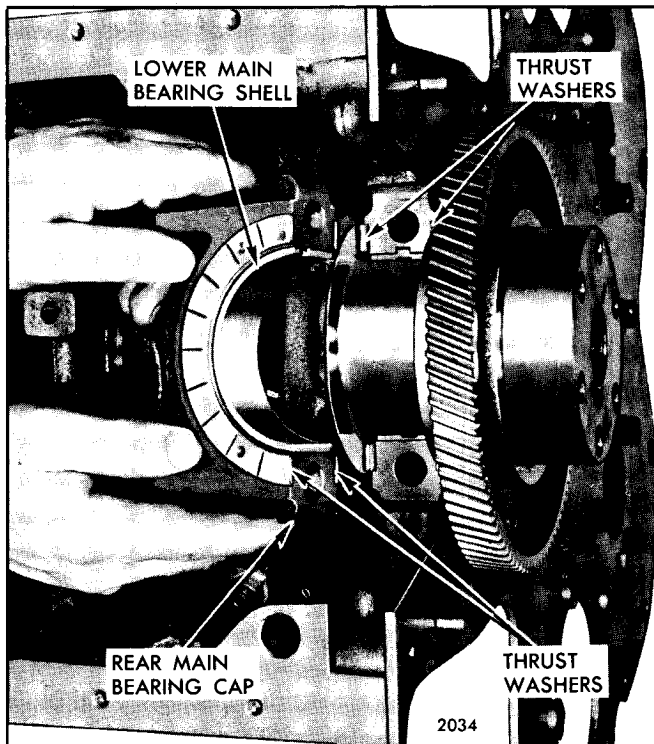

Fig. 9 - Crankshaft Thrust Washers in Place
Inspect the crankshaft thrust washers (Fig. 9). If the washers are scored or worn excessively or the crankshaft end play is excessive, they must be replaced. Improper clutch adjustment can contribute to excessive wear on the thrust washers. Inspect the crankshaft thrust surfaces. Refer to *Install Crankshaft* in Section 1.3. If, after dressing or regrinding the thrust surfaces, new standard size thrust washers do not hold the crankshaft end play within the specified limits, it may be necessary to install oversize thrust washers on one or both sides of the rear main bearing. A new standard size thrust washer is .1190" to .1220" thick. Thrust washers are available in .005" and .010" oversize.
3. Assemble the crankshaft thrust washers before installing the rear main bearing cap (Fig. 9). Clean both halves of each thrust washer carefully and remove any burrs from the washer seats -- the slightest burr or particle of dirt may decrease the clearance between the washers and the crankshaft beyond the specified limit. Slide the upper halves of the thrust washers into place. Then, assemble the lower halves over the dowel pins in the bearing cap. The main bearing caps are bored in position and stamped 1, 2, 3, etc. They must be installed in their *original* positions with the marked side of each cap facing the same side of the cylinder block that carried the engine serial number.